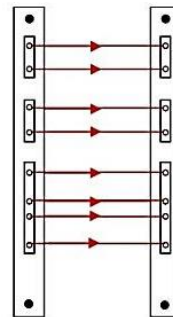

Fig. 1
2. Drill the aluminium profiles at both ends and fix them to the wall paying attention to keep them on the same axis (Fig.1), for longer barriers drill additional holes as required.